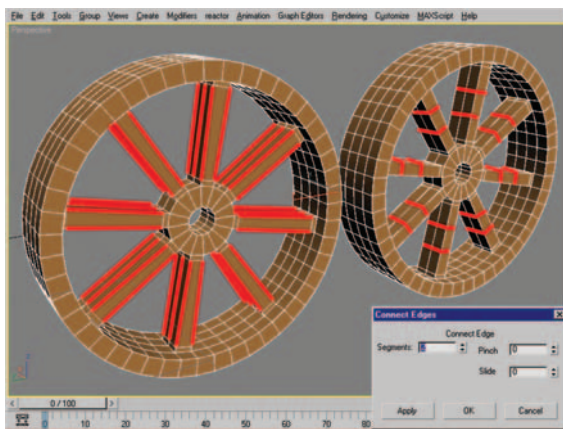

Figure 8.102 Edge selection before and after using Connect to add two new rows of edges.
12. Select the edges seen in Figure 8.102 (left) and use the Connect settings with a Segments value of 2 to create the new edges seen in Figure 8.102 (right).